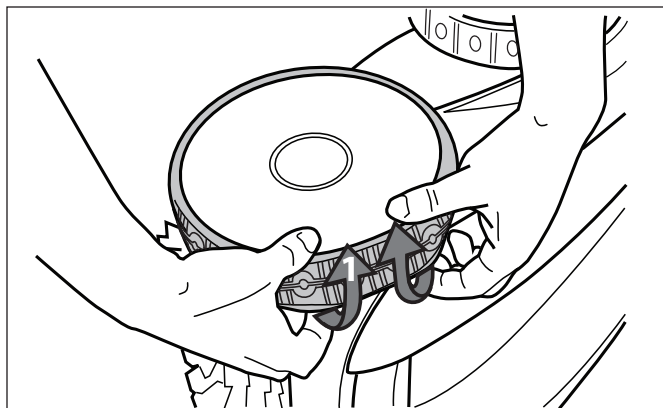

Figure 36. Pull the Old Tire Over the Wheel
- Pull on the inside of the old tire to remove the tire lip from the wheel. See Figure 36.